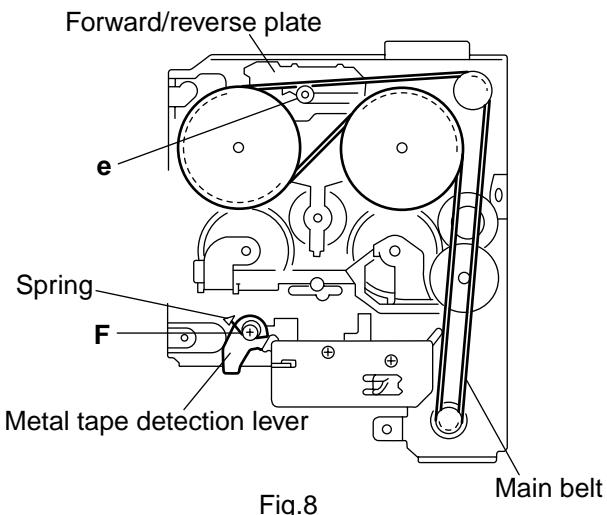

Fig.8
■ Removing the head plate (see Fig. 8,9)
6. From the rear of the head plate, detach the mylar washer **e** and the washer pressing the forward/reverse plate down. (see Fig. 8)
7. Remove the screw **F** fixing the metal detection lever and removal spring as shown in Fig. 8.
(see Fig. 8)